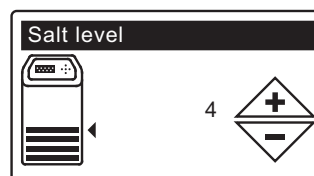

FIG. 17
- 9. SALT LEVEL** Press the UP (▲) or DOWN (▼) buttons to set the salt level (See Figure 17). It should match the lowest number visible on the brinewell above the salt.